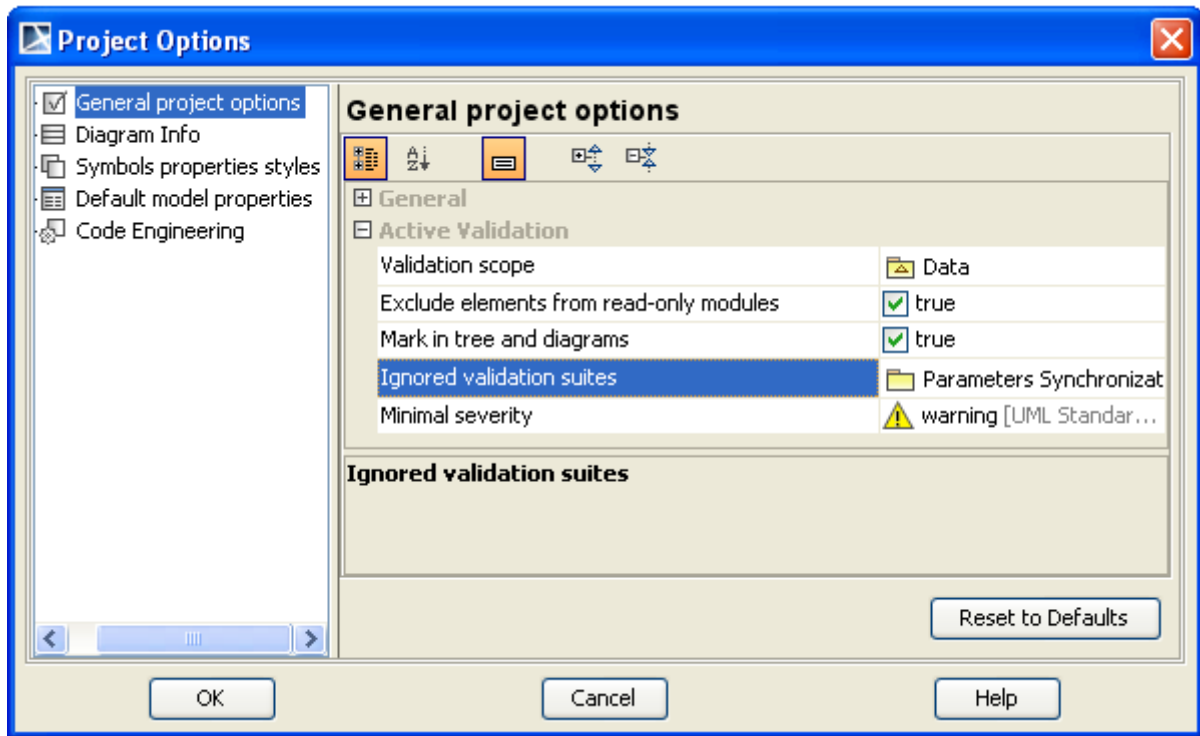
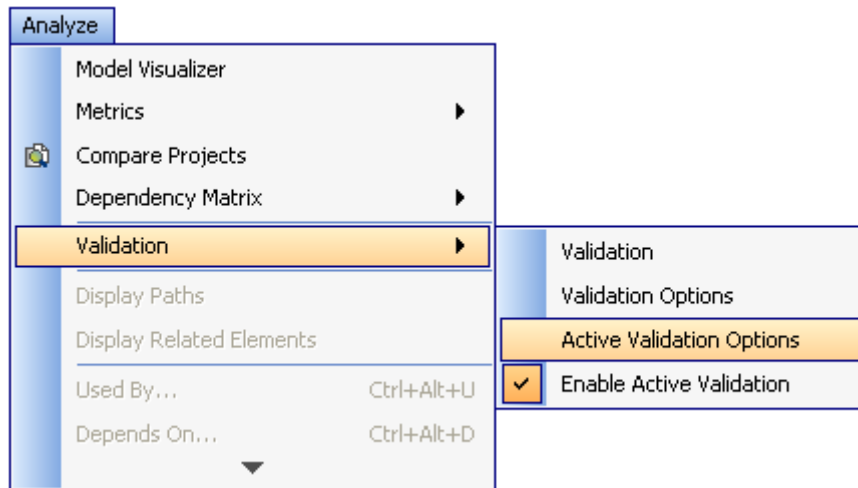

Figure 218 -- Project Option Dialog
Figure 219 -- Active Validation Options
You can customize the Active Validation feature using the five options in Figure 218:
1. Click **Analyze > Validation > Active Validation Options** (Figure 219). The **Project Options** dialog will open (Figure 218).
2. Go to the **General project options** pane and select **Active Validation > Ignored validation suites** (Figure 218).